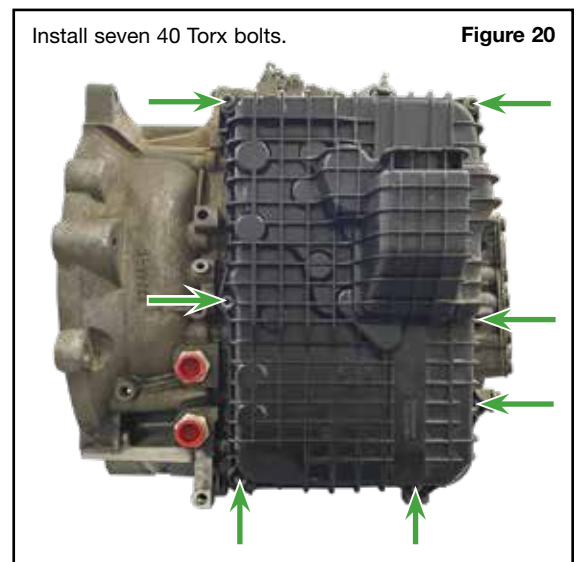

Figure 20
- e. Install the harness connector into the front valve body cover and install the cover onto the case. Install the seven 40 Torx bolts and torque to 9.5Nm (84 in-lb) (**Figure 20**).